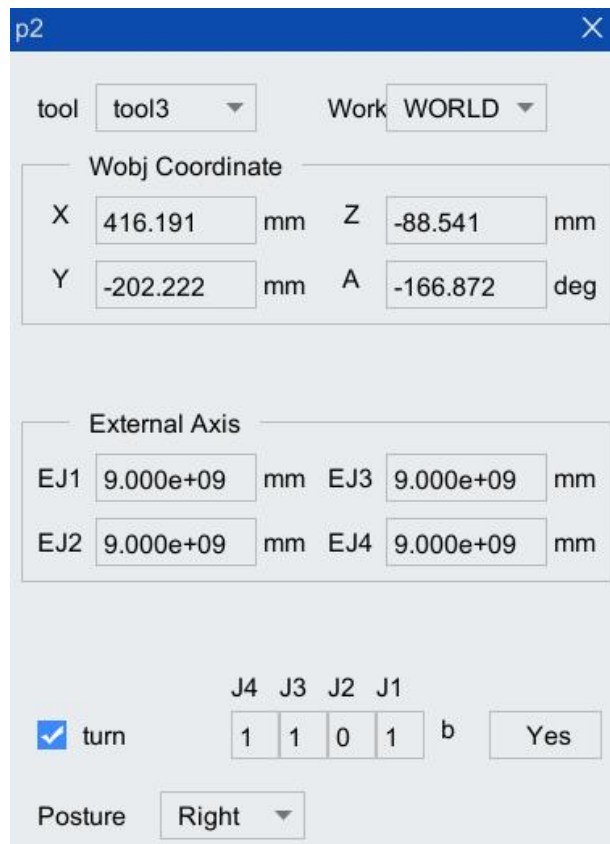

Figure 5-17 "p" variable display box
Step2. Click <...> button after the position variable p to pop up "p" variable display box in Figure 5-17, which displays the position information of the current TCP of the robot body relative to the workpiece coordinate system and the current position information of the external axis. The position is displayed but cannot be modified. Click <Yes> button, and then the current position information can be obtained automatically after the instruction is inserted.
Step3. Figure 5-17 As shown in , you can re-select the tool/workpiece coordinate system, or select or cancel the turn value. After clicking <Yes> button, the parameters t and w in the PTP instruction box will display the currently